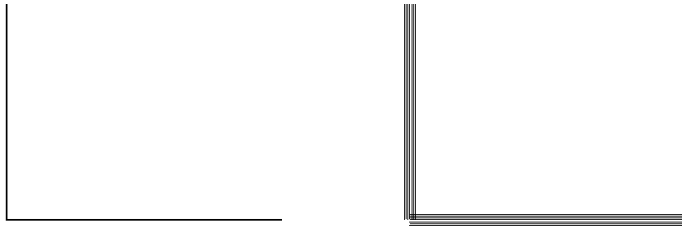

Figure 19.3: Lines drawn with a line weight of 4 and printed with a pen width setting of 12 (left) and 95 (right)
- *Pen Width* - determine if you have lines in your drawing with a line weight above “1.” If so, you can change the amount of space between pen passes when printing these thicker lines (see Figure 19.3). Click on Pen Width in the Print/Plot menu and use the value menu to enter a width.